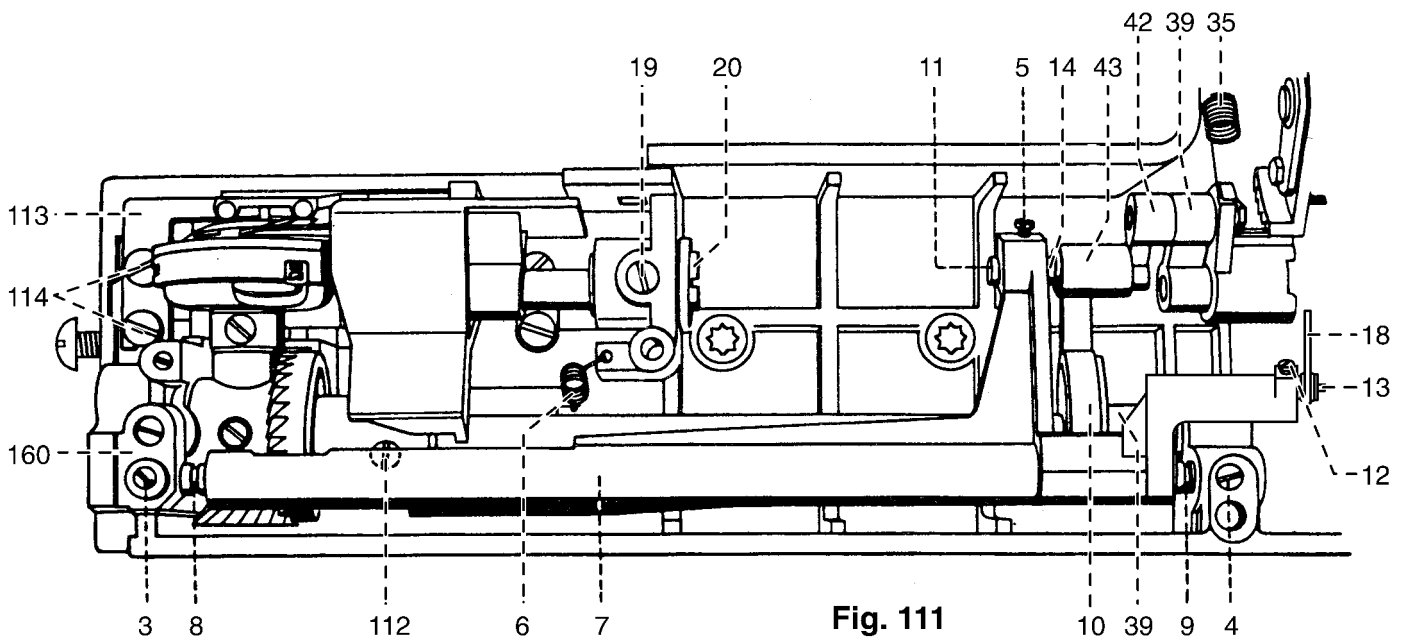

Fig. 111
- Remove the entire connecting bar 10 from actuating crank 39 (fig. 111).
- Remove screw 112 of the lifting eccentric (fig. 111).
- Remove set screw 160 at the sewing hook bearing and push the latter fully to the left (fig. 111).
- Insert set screw 160 and fasten the hook bearing (fig. 111).